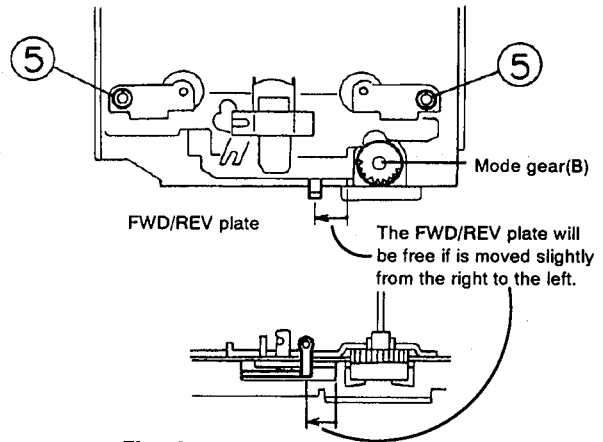

Fig. 4-14
■ **Pinch roller ass'y** (See Figs. 4-14 and 4-15)
- 1) Remove two C washers ⑤ securing the pinch roller ass'y (do this for both the FF and REV modes).